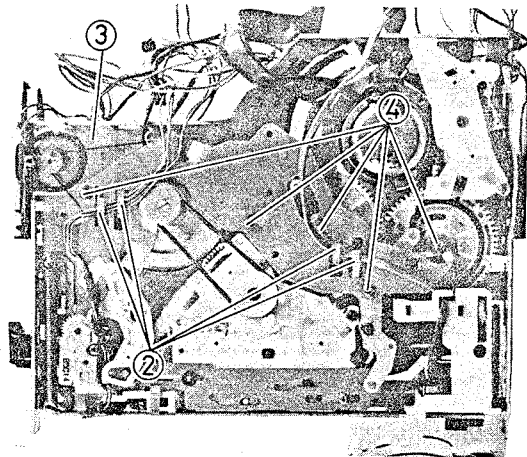
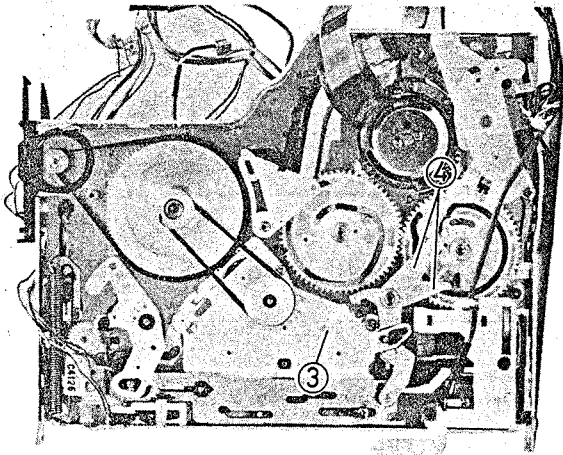

Fig. 2-105 Cam Gear Plate Removal
Fig. 2-110 Cam Gear Arm (1) and (2) Removal
Cam Gear Plate Removal (Fig. 2-105)
2. Remove the wires from wire holders. (See Fig. 2-105)
4. Remove five (5) screws holding the cam gear plate.
2. Remove the cam gear plate. (See Fig. 2-105)
Cam Gear Arm (1) and (2) Removal (Fig. 2-110)
3. Release one (1) tab and remove the idler drive arm.
4. Pull out the cam gear arm (1) and (2). (See Fig. 2-110)
4. Remove the cam gear plate. (See Fig. 2-105)
6. Remove the cam gear arm (1) and (2). (See Fig. 2-110)
5. Remove the cam gear arm (1) and (2). (See Fig. 2-110)
4. Remove the cam gear arm (1) and (2). (See Fig. 2-110)